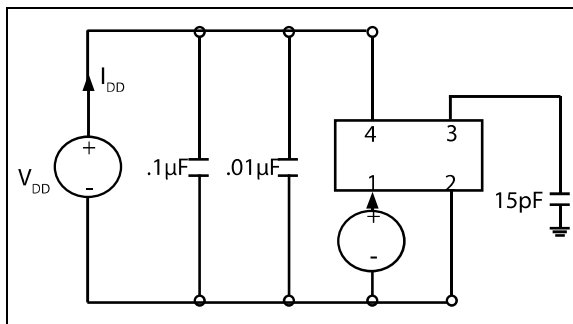

FIGURE 1-1: Test Circuit.
2: Parameters are tested with the test circuit shown in Figure 1-1. Add $((50 \text{ pF} - 15 \text{ pF}) \times V_{DD} \times f_{OUT}$ (in MHz) $\times 0.001$) mA for the ±50 pF option
- 2:** Parameters are tested with the test circuit shown in Figure 1-1. Add $((50 \text{ pF} - 15 \text{ pF}) \times V_{DD} \times f_{OUT} \text{ (in MHz)} \times 0.001) \text{ mA}$ for the $\pm 50 \text{ pF}$ option